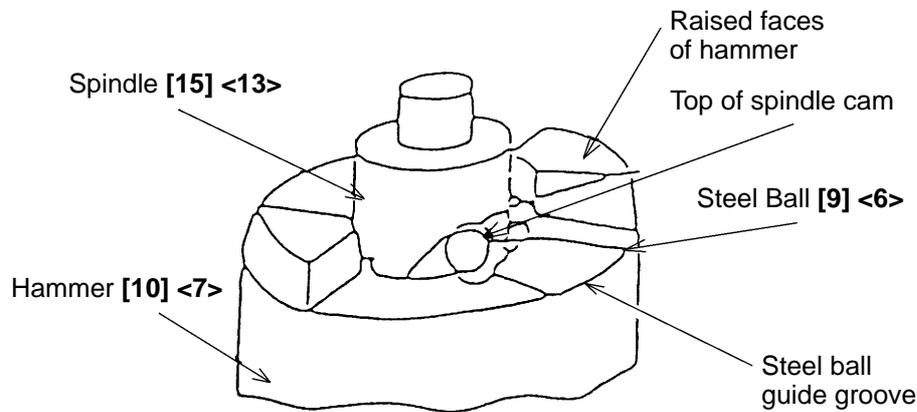
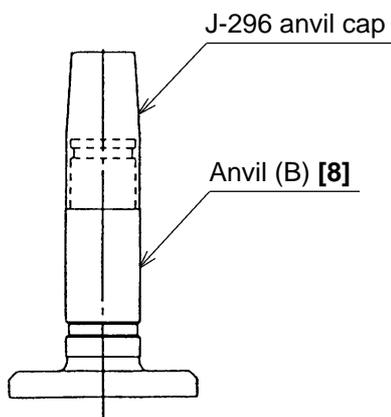

Fig. 3
Fig. 5
(3) Reassembly of the hammer assembly
- (a) Put Washer (S) [13] <11> onto the shaft of the Spindle [15] <13> and mount the Hammer [10] <7> containing the twenty-five Steel Balls D3.5 [7] <8>, Washer (J) [11] <9> and the Spring [12] <10> to the Spindle [15] <13>.
- (b) Align the top of the cam groove on the Spindle [15] <13> with the steel ball guide groove on the Hammer [10] <7> as illustrated in Fig. 3. Press down either of the raised faces of the Hammer [10] <7> with a hand press to compress the Spring [12] <10> until the end surface of the Hammer contacts the flange of the Spindle [15] <13>.
- (d) Mount the hammer assembly onto the J-297 base for washer (S). With a hand press, push down the top of the Spindle [15] <13> to compress the Spring [12] <10>. On this condition, mount the Stopper [14] <12> onto the spindle shaft and then release the hand press.
- (e) Mount the Ring Gear [18] <16>, Ball Bearing [20] <18>, Inner Cover [21] <19> and Damper [22] <20> to the above reassembly. Furthermore, mount the other mechanical parts and Anvil (B) [8] or Anvil (K) Ass'y <4>, then the Hammer Case [6] <2>. When mounting Anvil (B) [8], use the J-296 anvil cap (Fig. 5).